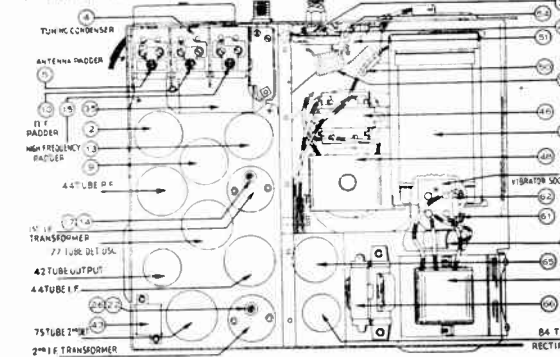

Fig. 280
The primary paddler is adjusted by means of the screw slot accessible through the hole in the top of the shield can. The secondary paddler is adjusted by means of the small hex nut, also accessible through the hole in the top of the shield (See Figure 280).
Remove the lid from the receiver. Remove the grid cap terminal from the 77 tube (the location see Figure 280).
Set up the signal generator and adjust it to exactly 240 Kc. Connect the generator lead to the grid cap of the 77 tube. (See Figure 280.) The output meter must be connected.
The paddlers (22 and 26) are adjusted first (Figure 280). Turn the adjusting screw (22) all the way in. A metal screwdriver can be used for this. Then, with generator attenuator set so there is approximately half-scale reading, adjust the nut (26) with a tube wrench for the maximum reading on the output meter. This applies to the sets to date, but sets of the future, with the broad tuning, the I. F. is close coupled and will have two peaks, and must be tuned between the two peaks. This requires good judgment and careful adjustment.
There are four holes in line, one in each of the sections of the tuning condenser housing. (See Figure 280.) Place a nail of the size that fits snugly through the holes and then turn the condenser plates out of mesh until they strike against the nail.